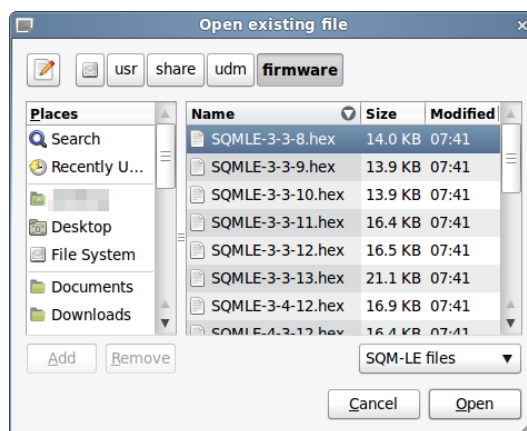

Figure 7.44: Firmware selection
1. Press the “Select Firmware” button to choose the firmware file to load into the SQM as shown in Figure 7.44: